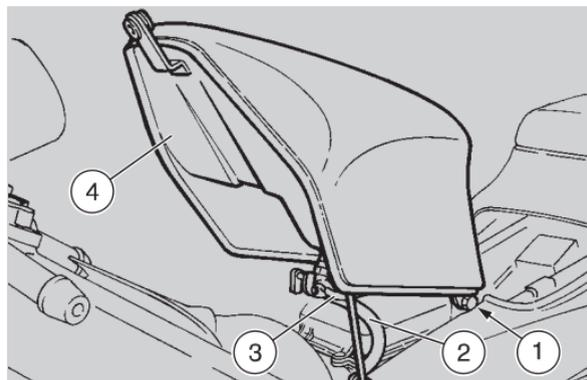

Fig. 39
- disconnect the fuel pipe (2-Fig. 39) and the electric cable (3-Fig. 39);
- unscrew and remove the nut and the fastening screw of the tank (1-Fig. 39);
- remove the fuel tank (4-Fig. 39).